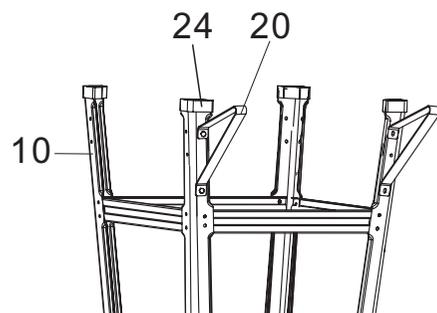

Fig. 4
Screw the additional legs (20) to the rear legs(10) with hex screws (27), washers (28) and nuts (29) so that they point towards the rear of the machine (Fig. 4). Turn the table saw upright into the normal operating position.